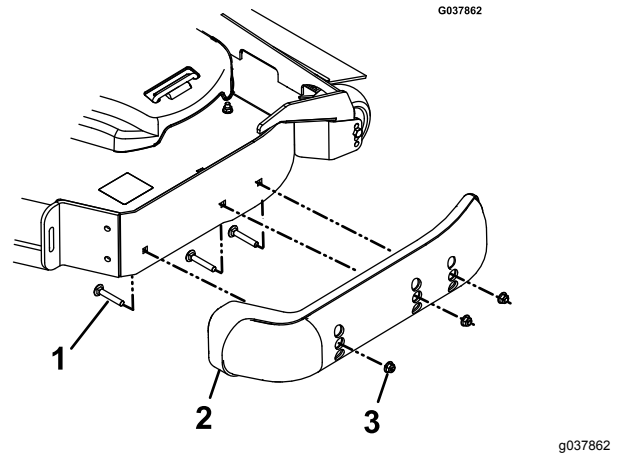

Figure 32
4. Remove the bolts and nuts from each bumper (Figure 32).